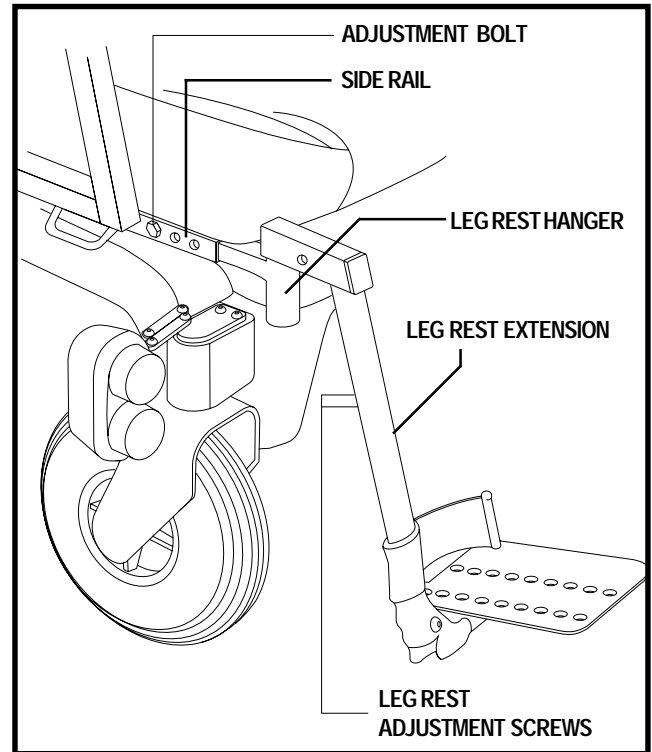

Figure 16. Heavy Duty Drop-in Leg Rests
1. Remove the adjustment bolts from the side rail. See figure 16.
1. Remove the adjustment screws from the leg rest extension. See figure 16.